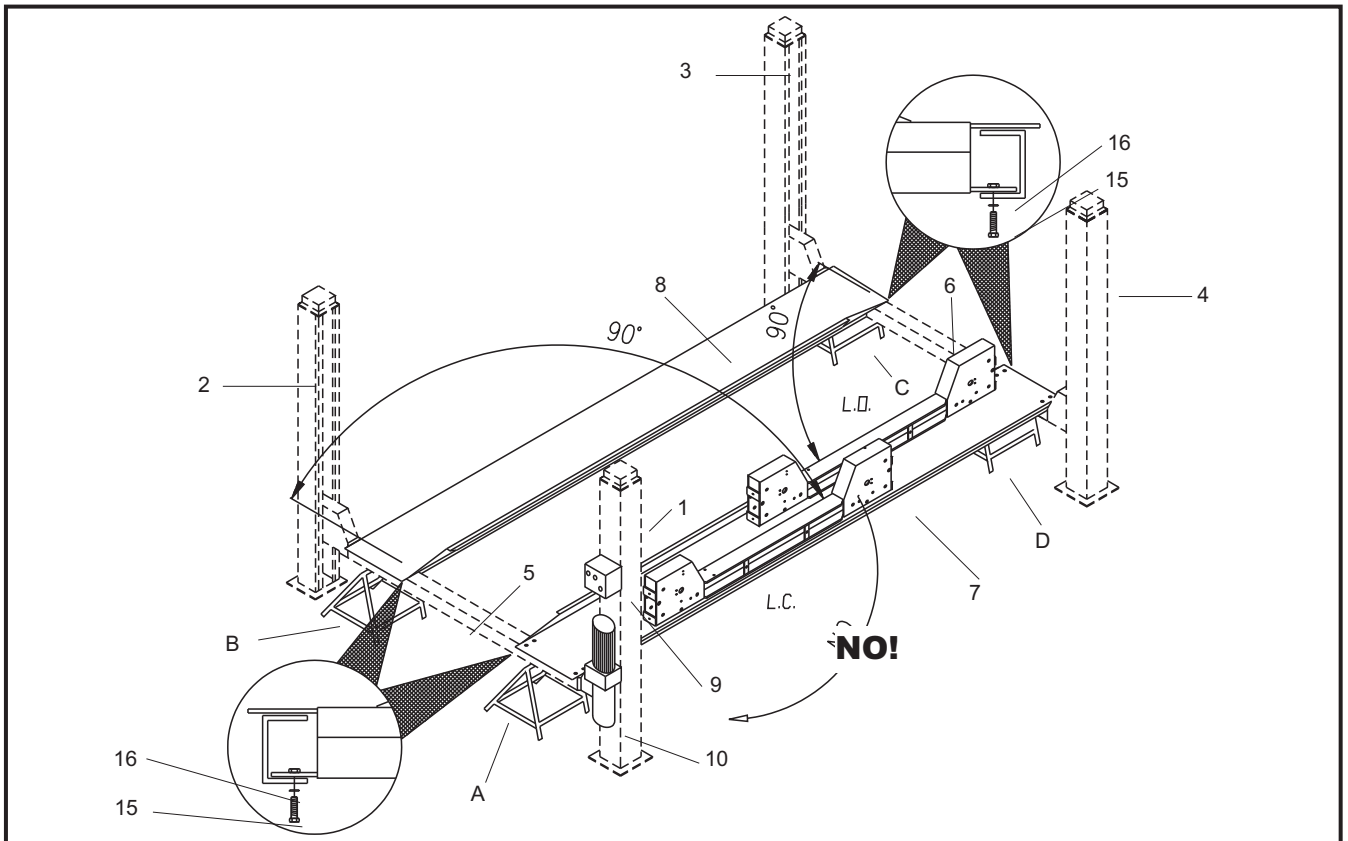

Fig.40
4 - Place the cross-piece (5) on trestle (B) and secure it to the platform (7) using M12 x 25 screws (15) and 12 x 20 toothed washers (16). During these operations check that the steel cables are correctly positioned (see view "C" in fig.40).